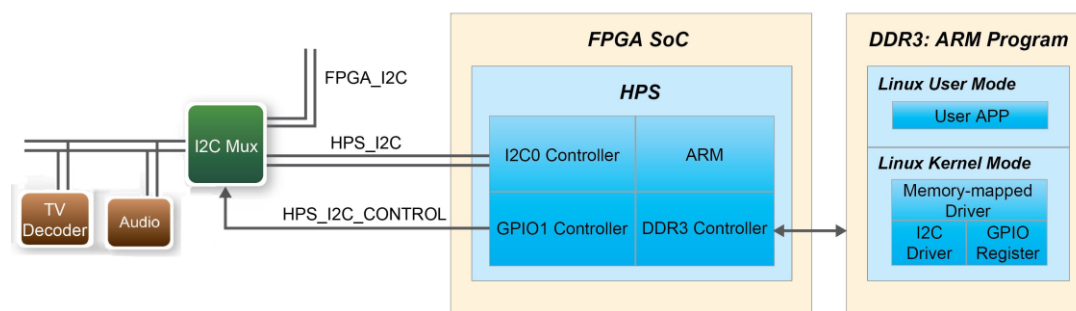

Figure 6-9 Block diagram of the I2C MUX test demonstration
**Figure 6-9** shows the function block diagram of this demonstration. The I2C bus from both FPGA and HPS are connected to an I2C multiplexer. It is controlled by HPS\_I2C\_CONTROL, which is connected to the **GPIO1** controller in HPS. The HPS I2C is connected to the **I2C0** controller in HPS, as well as the G-sensor.